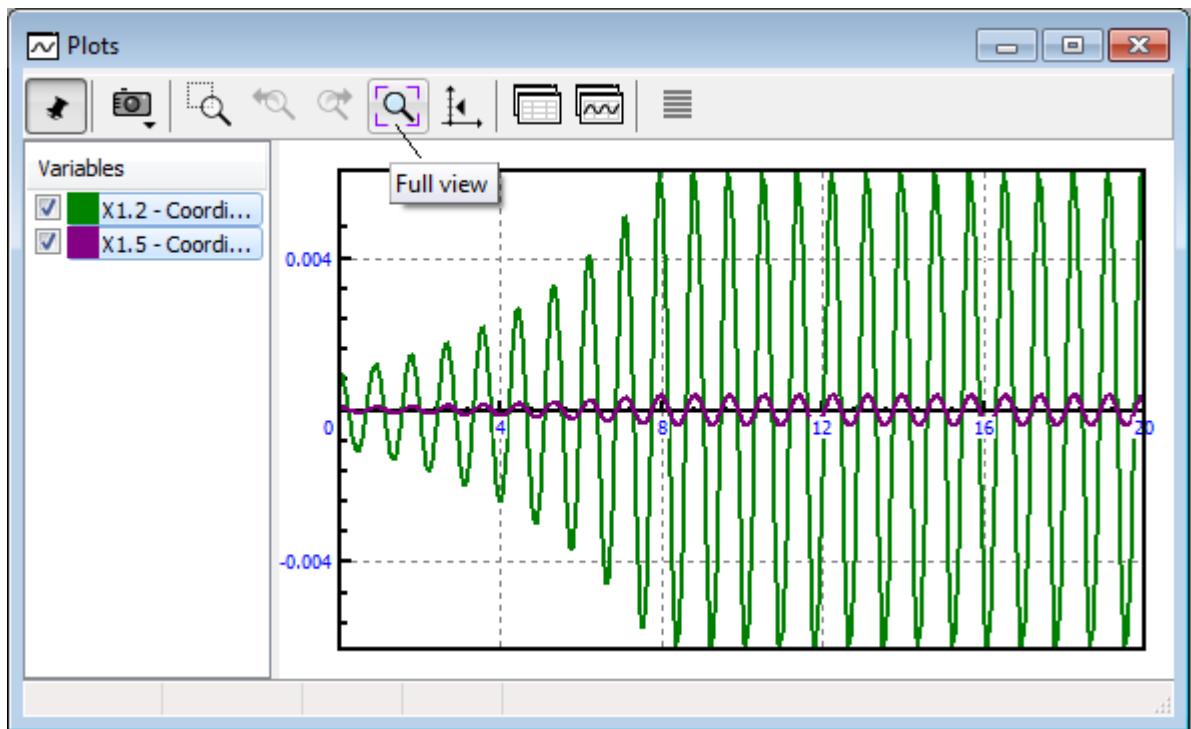

Figure 1.8. Wheelset coordinates
4. Start simulation of motion. You see that the wheelset is unstable as well but the period of oscillation increases, see Figure 1.8.
**Note.** Lateral displacement and angle of attack (hunting) are quite small. Use **Full view** button to tune the window scales, see Figure 1.8.